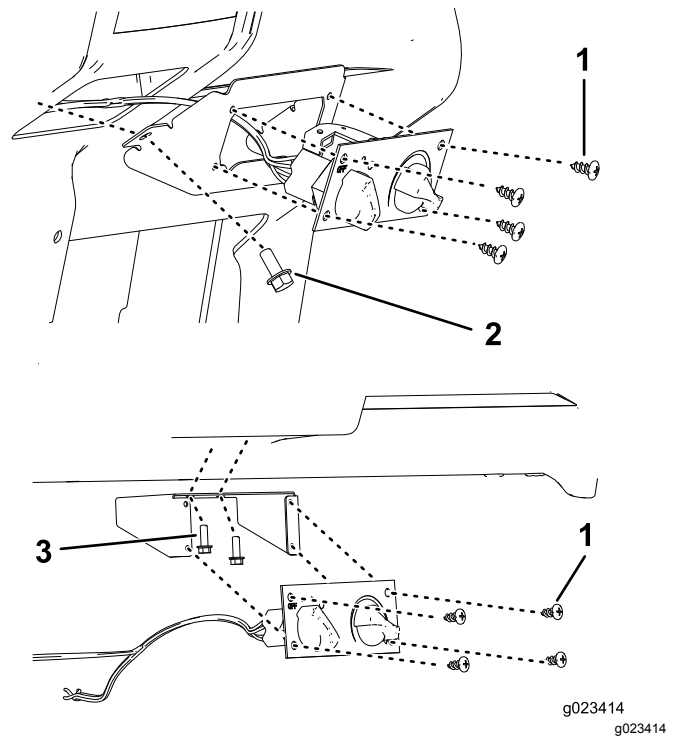

Figure 5
4. Attach the heater control to the heater control mount using 4 sheet metal screws (Figure 5).
5. Connect the heater-control cable and black wire-harness connector to the heater control and the white wire-harness connector to the heater (Figure 5).
7. Secure using 4 flange-head bolts (5/16 x 3/4 inch) in the front of the heater control mount and either 2 bolts (5/16 inch for the HD vehicles) on the side of the mount or 2 bolts (1/4 inch for the MD vehicles) on the inside top of the mount, depending on which model you have (Figure 5).